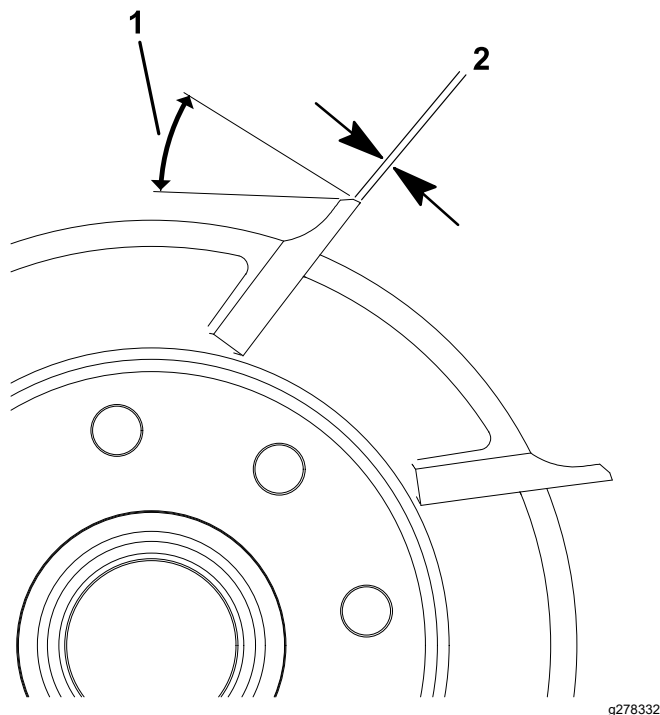

Figure 23
- 1. Apply a 30° relief grind on all reel blades until the land width is 0.8 mm (0.03 inch) wide (Figure 23).